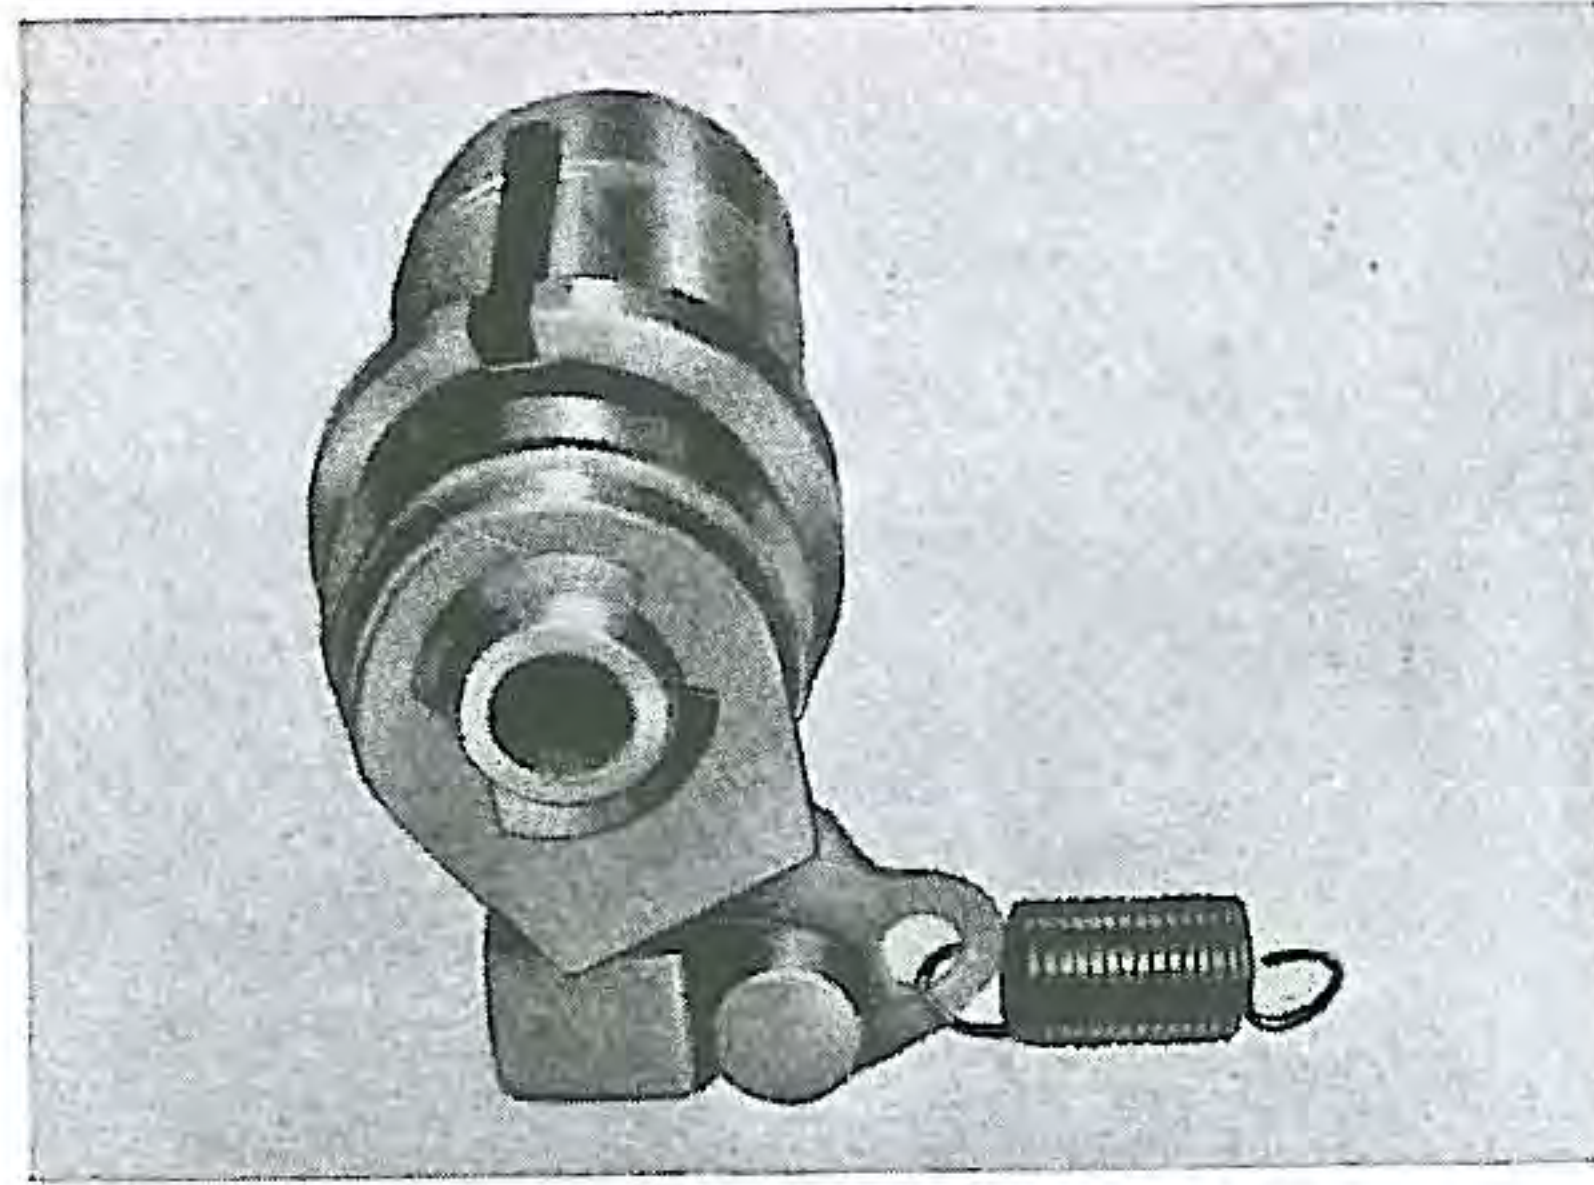

Fig. 80. Clutch lifter thread complete
- (10) At the left side of the engine, remove the L. crank case cover. Remove the 6 mm bolt retaining the clutch adjuster fixing piece, then the clutch adjuster complete may be removed from the cover. (Fig. 80). Unhook the clutch lever spring from the cover.